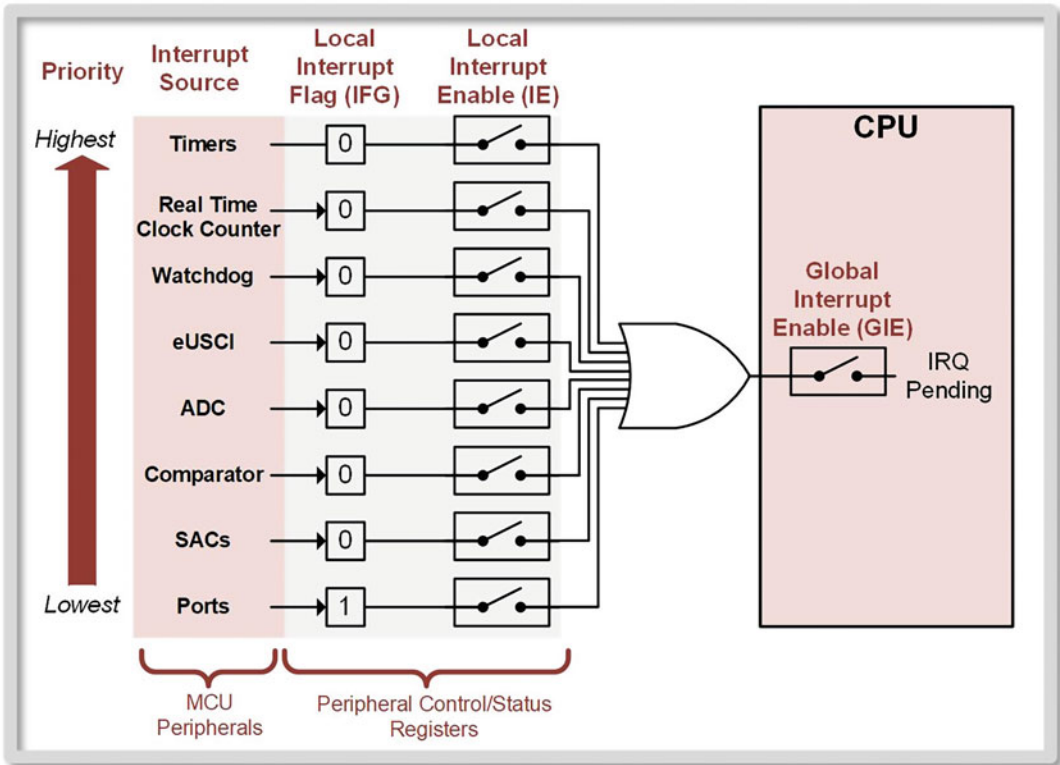

Fig. 11.2
Maskable interrupts are the third category of interrupts and are the interrupts that handle all of the common peripherals on an MCU (i.e., ports, timers, serial communication, ADC, and DACs). Maskable interrupts have both global and local interrupt enables. The GIE bit in the status register is used as the global enable for all maskable interrupts. When it is set ($GIE = 1$), then maskable interrupts are allowed. Upon reset $GIE = 0$, meaning no maskable interrupts are enabled. The MSP430 provides two instructions to explicitly enable (`eint`) and disable (`dint`) maskable interrupts. These instructions simply set or clear the GIE bit in the SR accordingly. Each peripheral system then has a local interrupt enable (IE) that is configured in the control/status registers within the memory map. The global and local interrupt enable bits can be thought of as gating switches that allow the peripheral's flag to be observed by the CPU when configured. Figure 11.2 shows a conceptual model for the global and local interrupt enables.